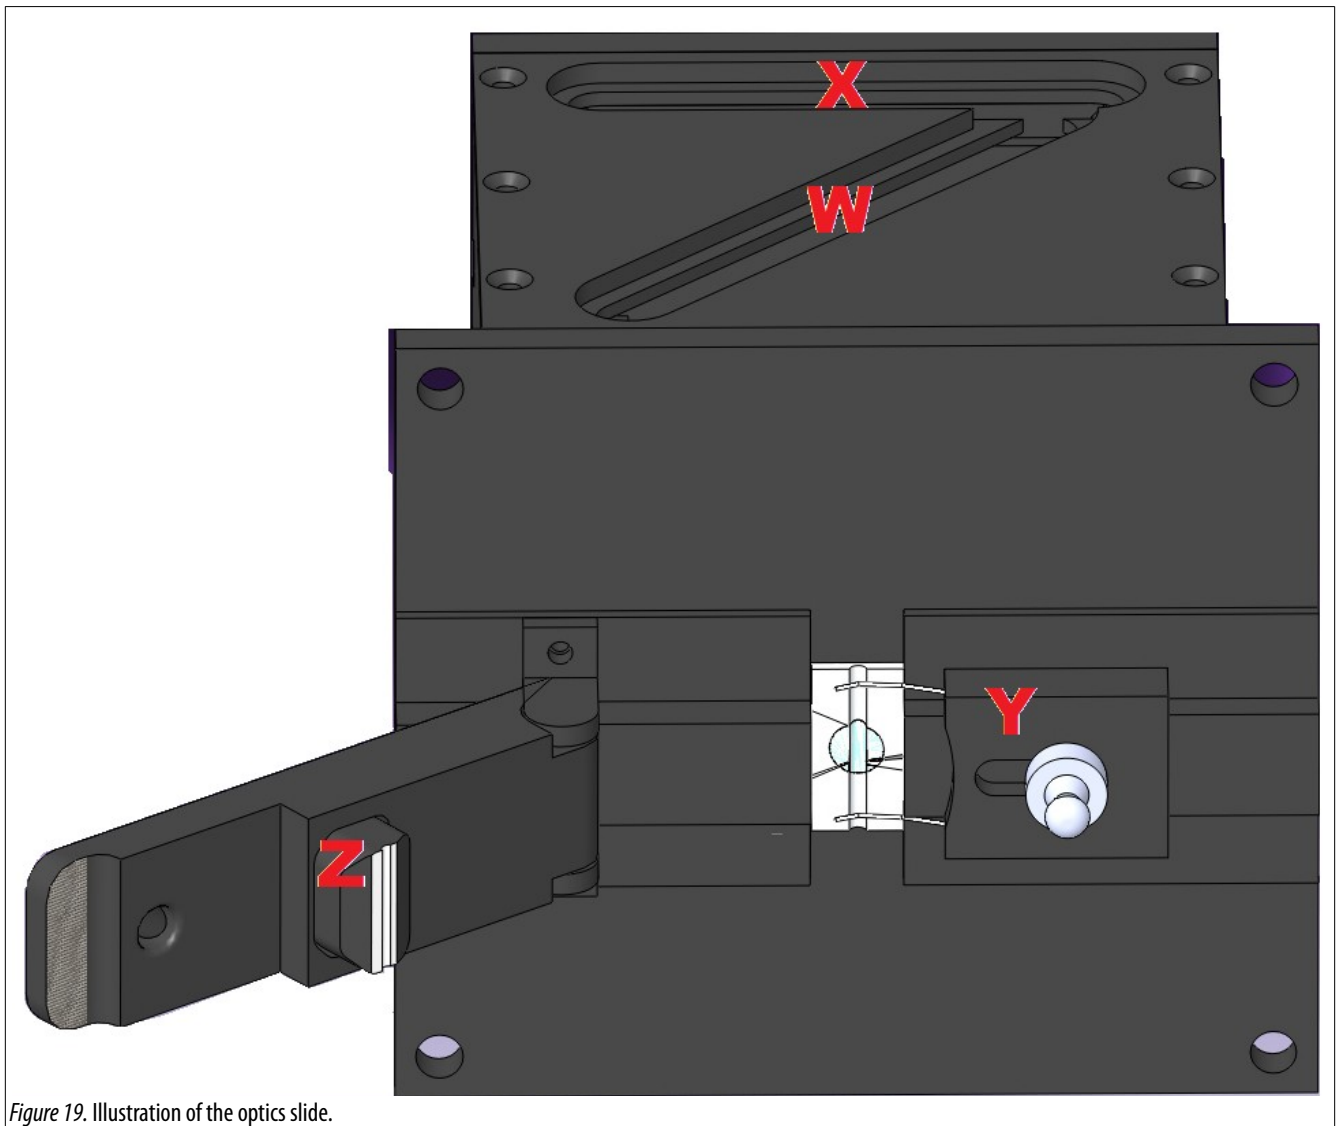

Figure 19. Illustration of the optics slide.
- Q) Reflector Arm:** Reflects both excitation and emission light back into the flow cell (also seen in Figure 19).